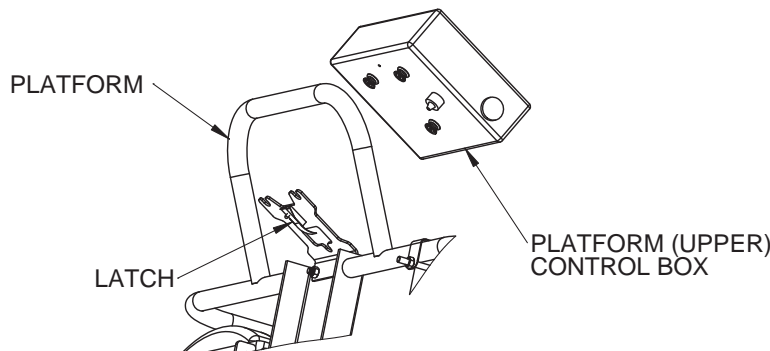

Figure 6-3. Remove Platform (Upper) Control Box.
- Remove the platform (upper) control box from the platform by releasing the **LATCH** on the back of the control box; take the platform (upper) control box to the ground (lower) control station. Refer to Figure 6-3.